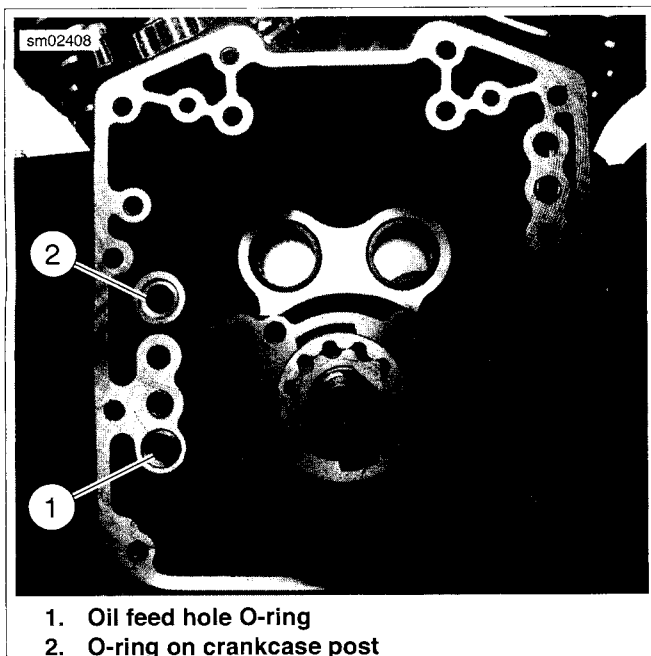

Figure 3-56. Oil Pump O-rings
2. See Figure 3-56. Remove o-ring (2) from outboard side of oil pump housing. Remove o-ring from scavenge port stub. Discard o-rings. See 3.27 OIL PUMP for inspection and repair information.